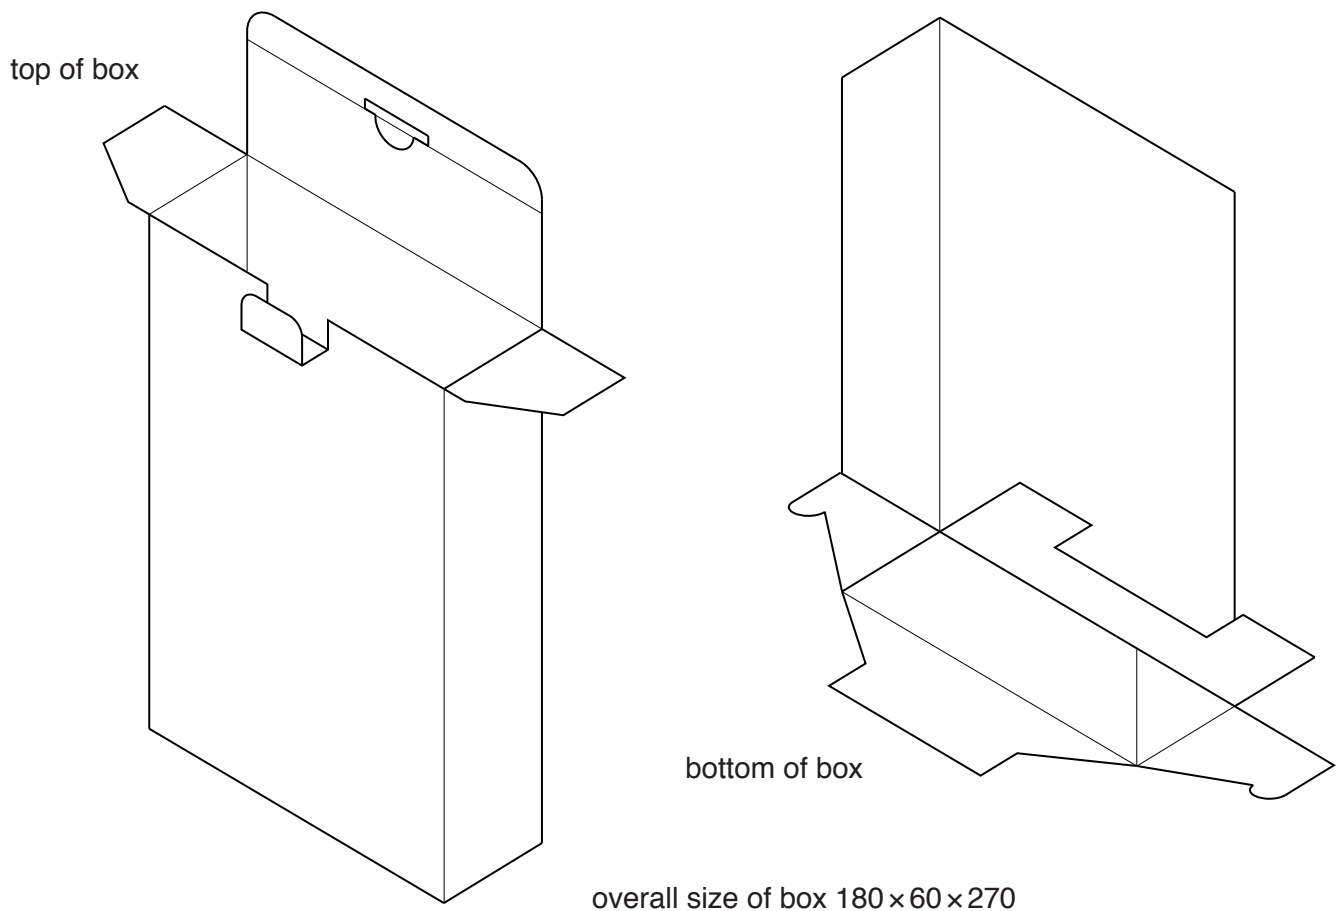

Fig. 3
- 2 Fig. 3 gives details about a box made from card. Several of these boxes will be made in a school workshop.